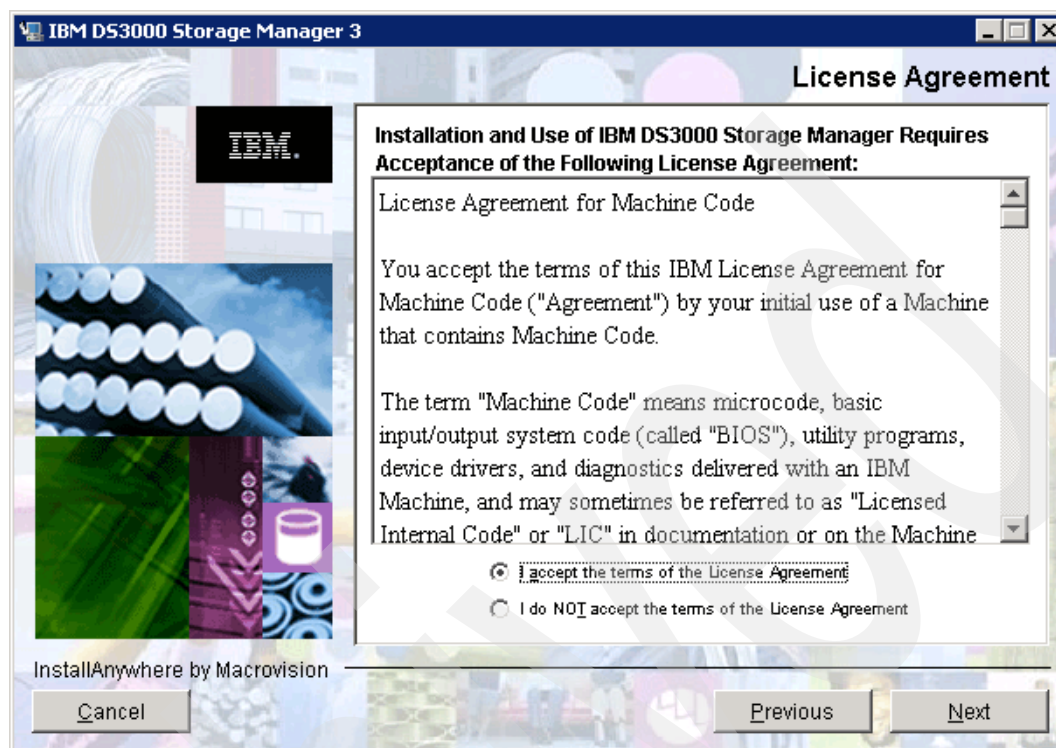

Figure 5-12 License Agreement
4. The License Agreement displays (Figure 5-12). Review the agreement, then accept it. If you do not accept the License Agreement, the installation process will not continue.